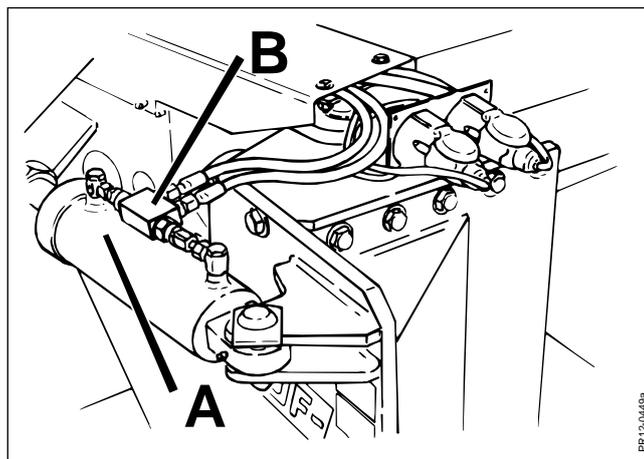

Fig. 3-11
**Fig. 3-11** The drawbar is converted electro-hydraulically with the joystick on the control box. The hydraulic cylinder **A** is equipped with a safety lock valve **B** which ensures that the machine does not make any unintentional movements in case of leaking hoses.